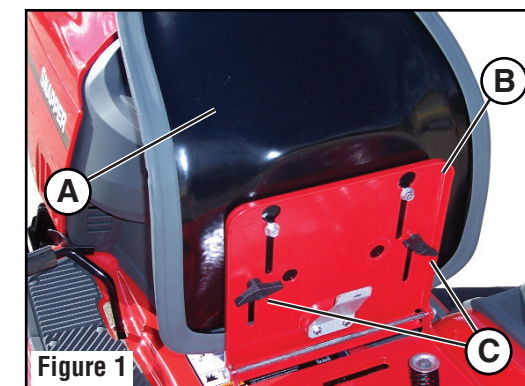

Figure 1
- Insert the two posts under the seat (A, Figure 1) into the rear adjustment slots in the hinge plate (B).
- Install the two wing bolts and small washers (C) through the front adjustment slots in the hinge plate and into the threaded holes under the seat.